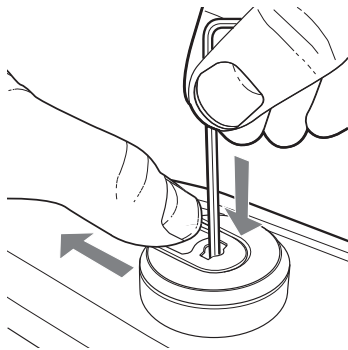

Fig. 29 Removing the blanking plug
1. Use the hexagon key to push down the spring of the universal accessory clip (Fig. 29). Remove the blanking plug.